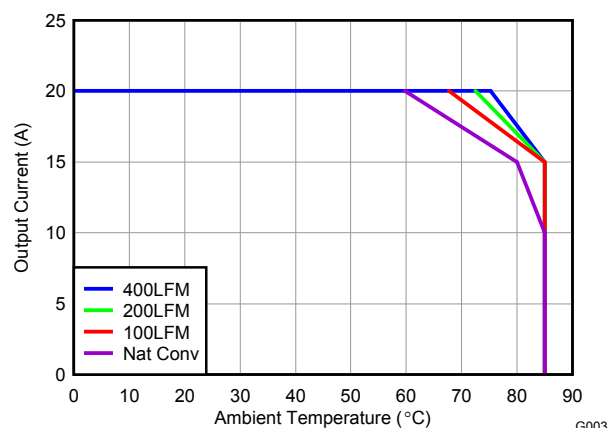
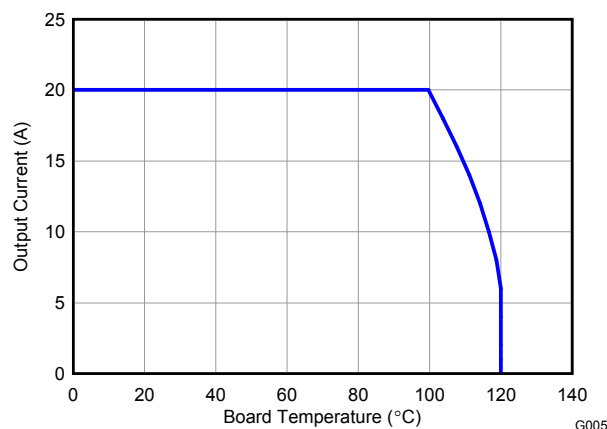

Figure 3. Safe Operating Area – PCB Vertical Mount⁽¹⁾
Figure 5. Typical Safe Operating Area⁽¹⁾
The SOA curves in the CSD86330Q3D data sheet provides guidance on the temperature boundaries within an operating system by incorporating the thermal resistance and system power loss. Figure 3 to Figure 5 outline the temperature and airflow conditions required for a given load current. The area under the curve dictates the safe operating area. All the curves are based on measurements made on a PCB design with dimensions of 4" (W) × 3.5" (L) × 0.062" (T) and 6 copper layers of 1 oz. copper thickness.